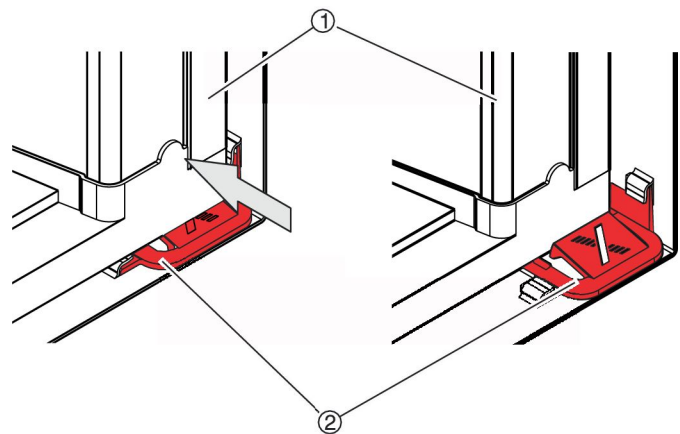

Fig. 60: Locking the filter element in place
8. ▶ Push the new filter element ( Fig. 60 /1) in and over the quick release fasteners ( Fig. 60 /2) until it locks into place.